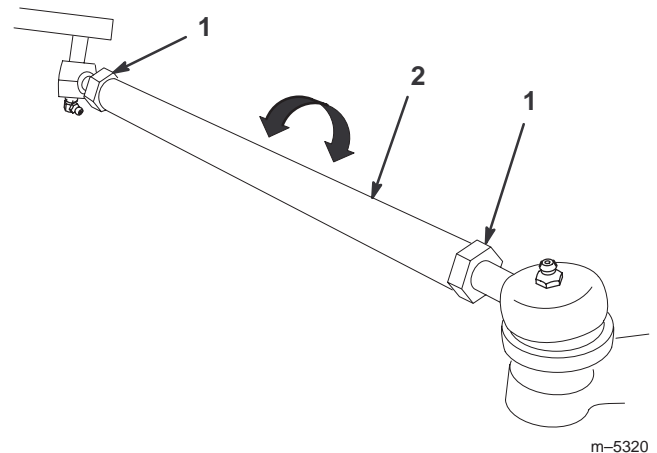

Figure 26
3. To adjust, loosen jam nuts at both ends of tie rods (Fig. 26).